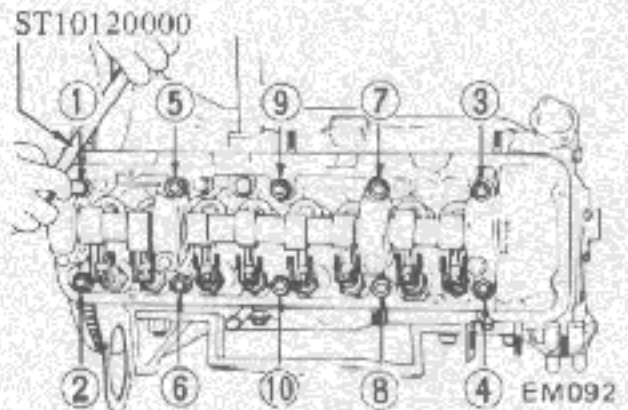

Fig. EM-15 Cylinder head bolt loosening sequence
18. Remove cylinder head assembly. Use special tool "Cylinder Head Bolt Wrench ST10120000" to remove cylinder head bolts. Loosen bolts from ① to ⑩ as shown in Figure EM-15.